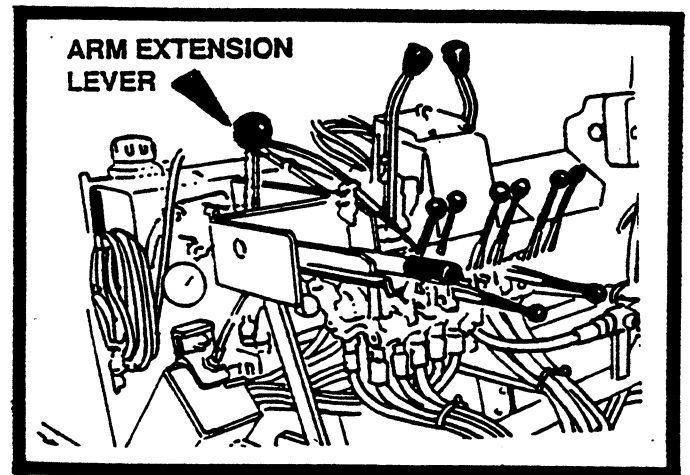

FIGURE 8
1. To connect truck hitch to rear of asphalt truck, extend the arm extensions of the truck hitch by pulling up on arm extension lever. See figure 8.